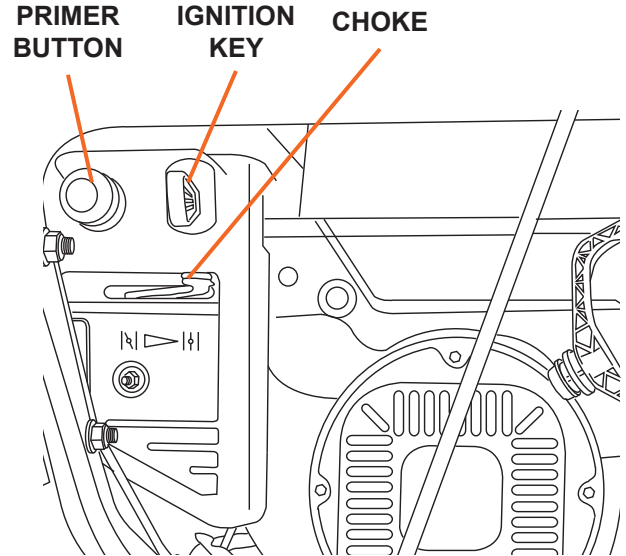

Figure 9
1. To start a cold engine, move the choke to the CHOKE position (to the left). To restart a warm engine, leave the Choke in the RUN position (to the right). (See Figure 9).